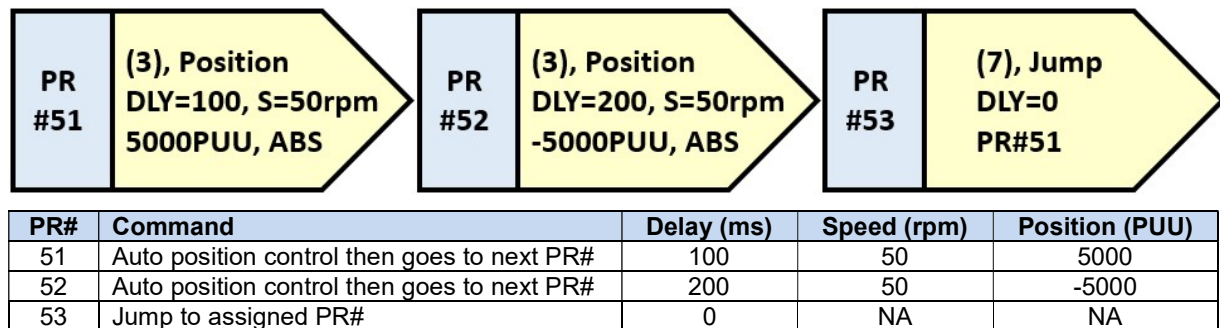

Fig.29 – PR commands definition
1. Three PR commands are programmed as below in Fig.29 to move the motor back and forth repeatedly in order to check if the feedback of the auxiliary encoder is following the main encoder or not.